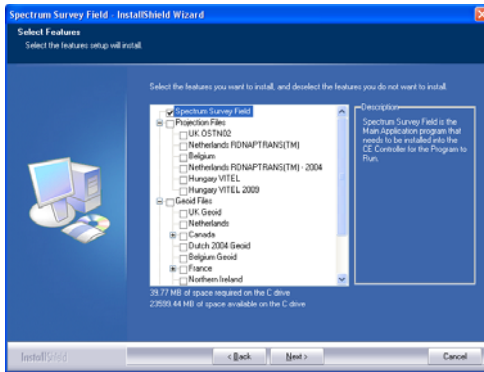

Figure 1-3. Select Features to Install
3. Select the features to install (Figure 1-3) and click **Next**.